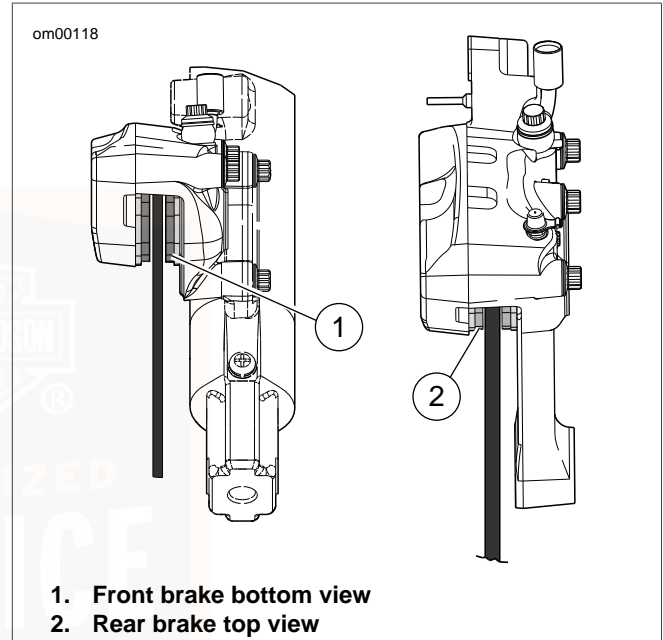

Figure 39. Brake Friction Material
4. See Figure 39. Visual inspection of brake pads can be made without removing the caliper by viewing the lower area of each caliper with the aid of a flashlight. Replace the brake pads if the brake friction material is 0.04 in. (1.02 mm) or less above the backing plate.